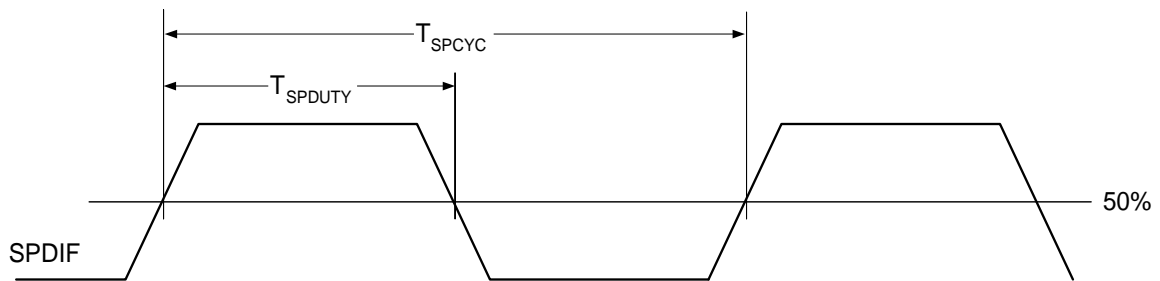
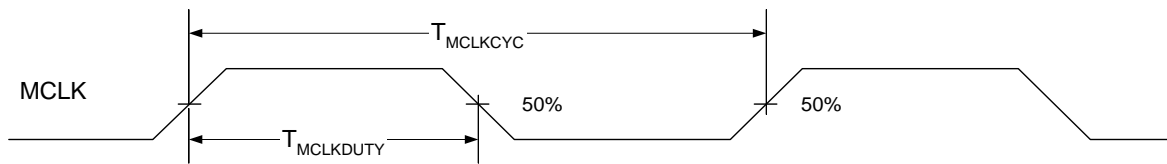

Figure 13. SPDIF Output Timing
Figure 14. MCLK Timing
1. Proportional to unit time (UI), according to sample rate. Refer to the S/PDIF Specification.
2. Refer to Figure 13 and Figure 14 on page 19.